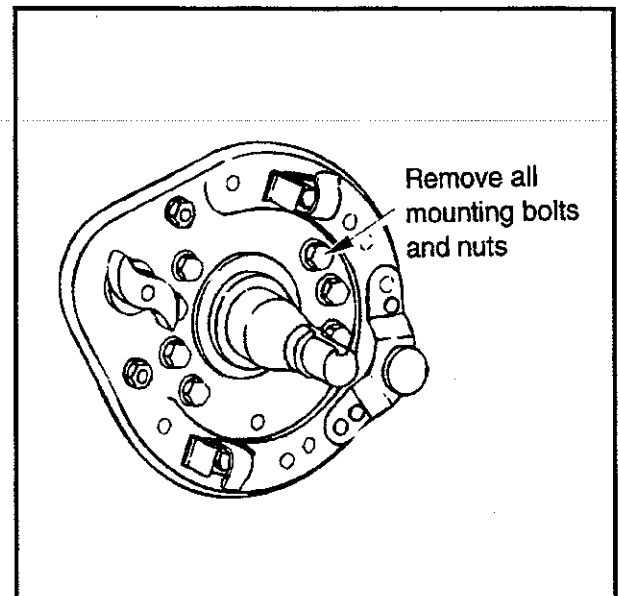

Figure 37—Attachment Nuts
3. Remove spider-to-axle attachment nuts and bolts. (See Figure 37—Attachment Nuts.)